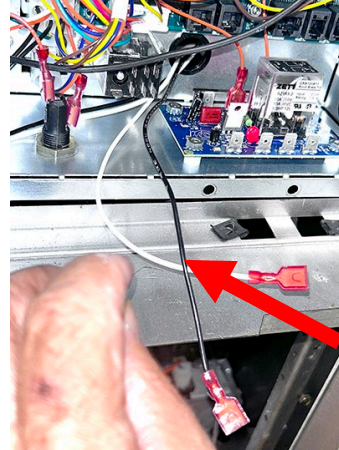

Figure 44
- 47. Insert the **two (2) BLACK** and **two (2) WHITE** wires from the OIB egg sensor through the lower control box opening, behind the time delay relay board (see Figure 44).